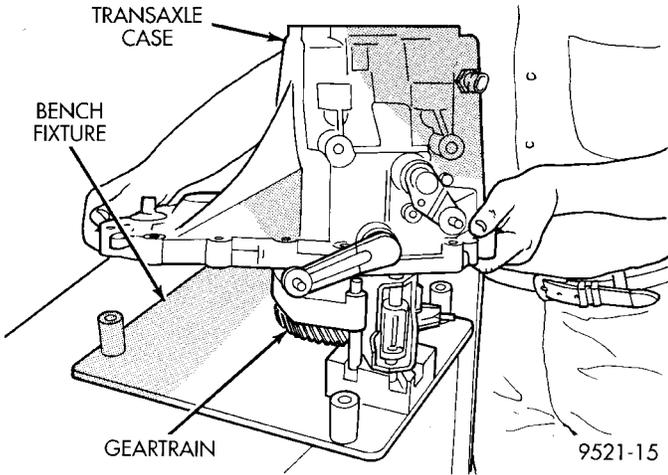

**Fig. 46 Pressing Gears Out of Case**
(15) Install transaxle gear case into shop press. Press output and input shaft assemblies out of case (Fig. 46).